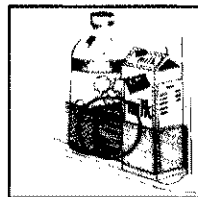

FIGURE 40
**Huggers.** Feature two handy shelf huggers that slide back and forth along door shelves. See Figure 40.